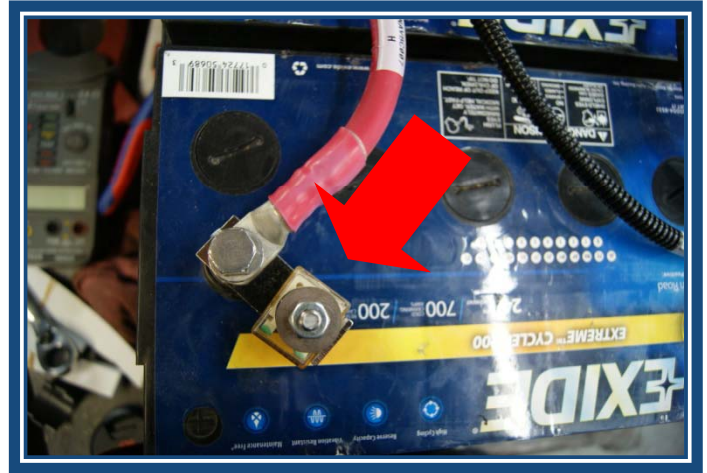

Figure 13
**Step 13:** The last connections can now be made at the liftgate batteries. First install the fuse cube assembly on one of the liftgate positive battery terminals. (See Figure 13)